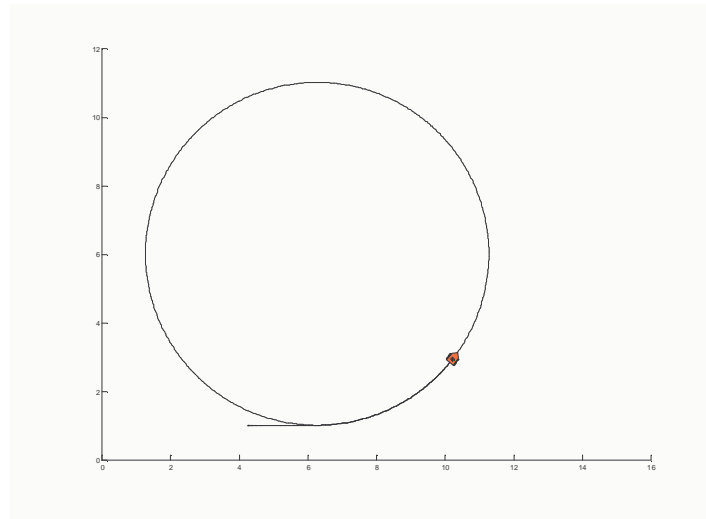

Figure 1: Trajectory estimated from sample input file.
4. You can use the sample input file to test the functionality of your program. If it is working correctly, the robot should move at constant speed in a circle going counterclockwise (see Figure 1).